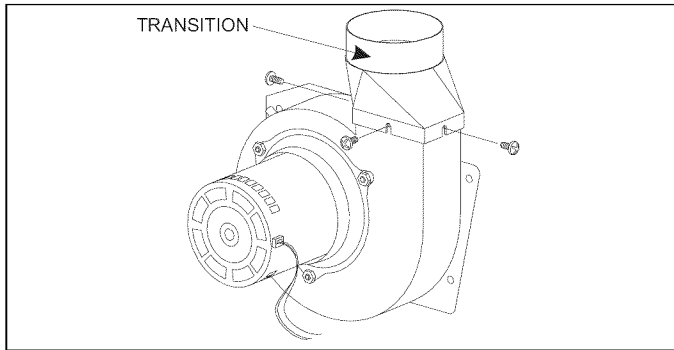

FIGURE 3: Vent Blower
9. Install the cast aluminum transition on the vent blower, using the three screws supplied on the vent blower. See Figure 3.